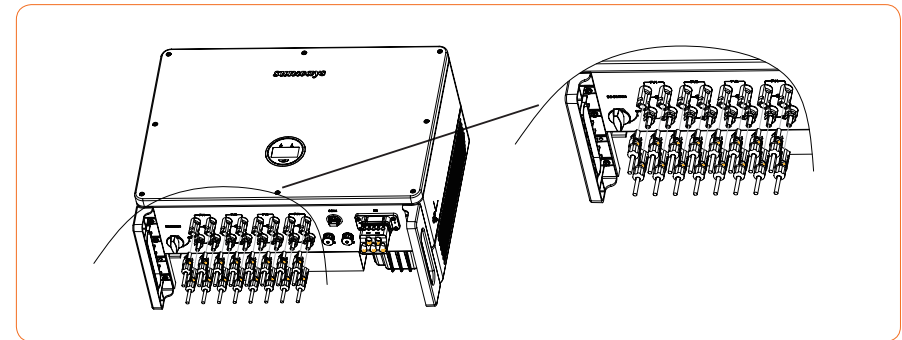

Figure 4-13
- ① Before assembling the DC connector, make sure that the cable polarity is correct.
- ② Use a multimeter to measure the voltage of the DC input string, verify the polarity of the DC input cable, and ensure that each string voltage is within 1000V.
3. Insert the positive and negative connectors into the inverter DC input terminals respectively, a click sound should be heard if the terminals are well connected, as shown in Figure 4-13: